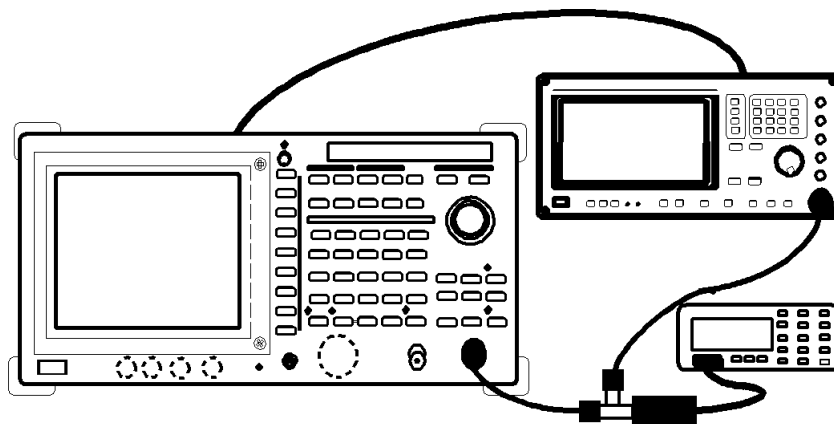

Figure 1-14 Setup for Measuring a Image, Multiple, Out of Band
3. Connect the signal generator and the power sensor as shown in Figure 1-14.